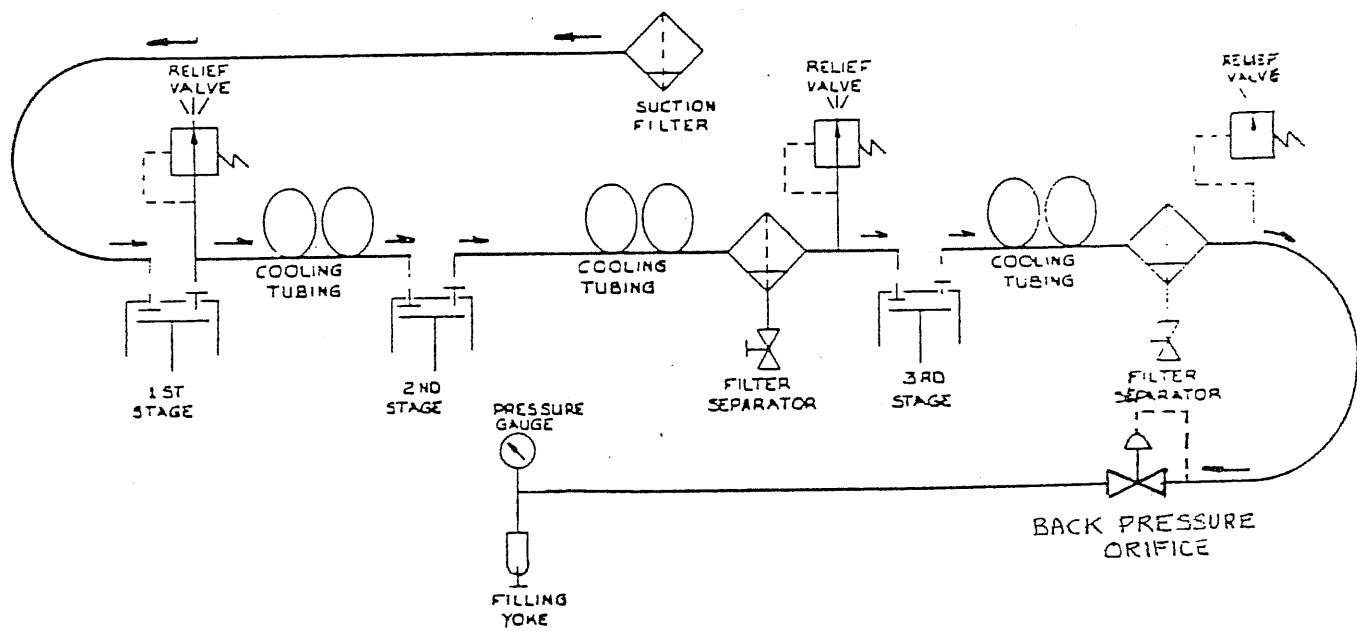

Figure 3-2 Air Flow Diagram
3.3 AIR FLOW SYSTEM (See Figure 3-2)